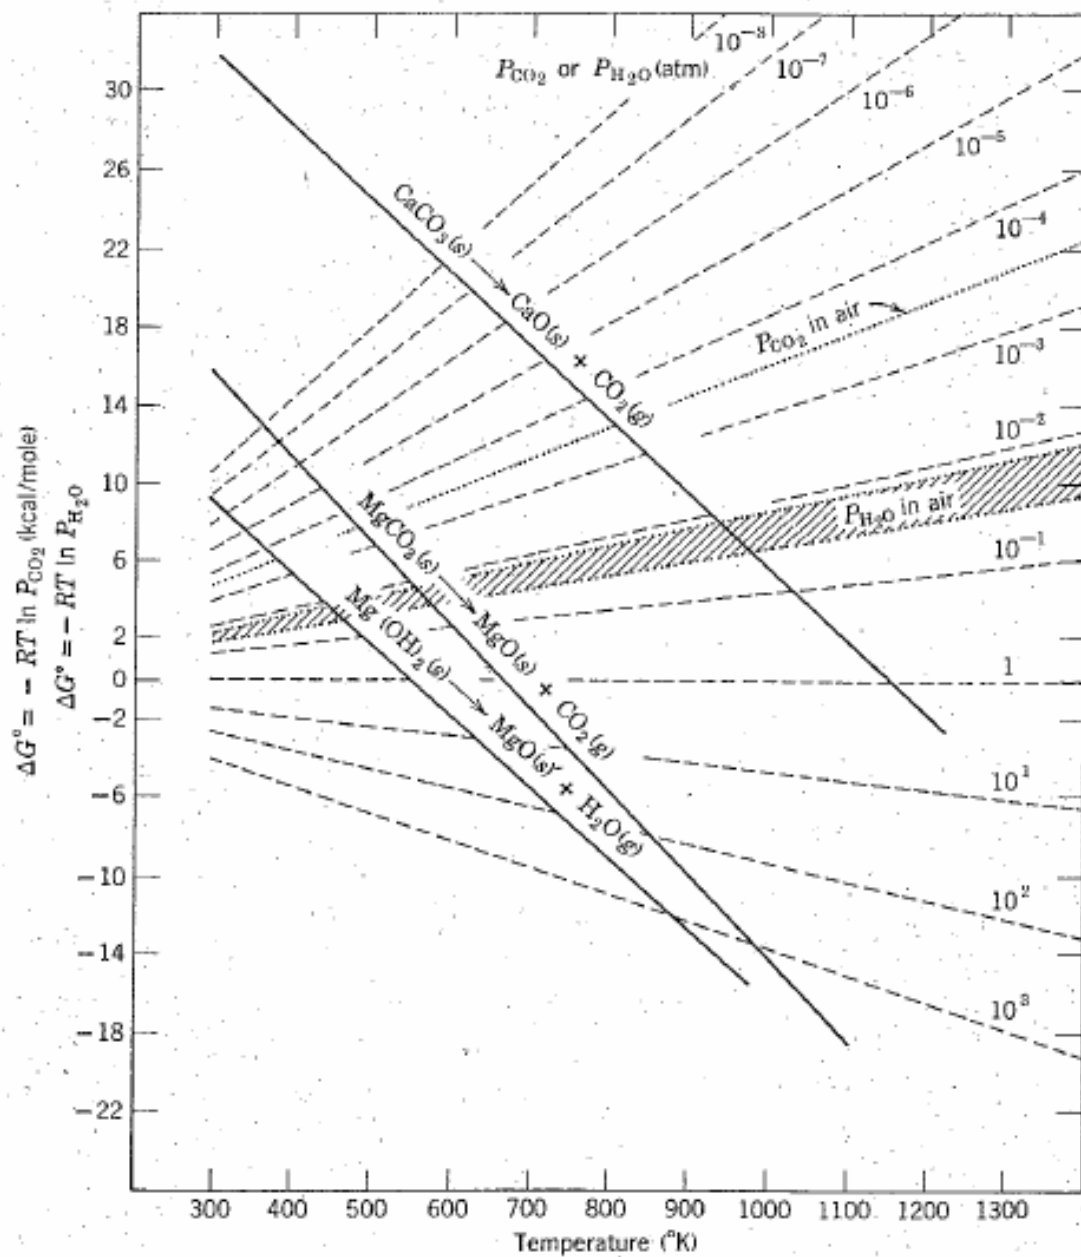

Figure .2: Thermodynamic data for Mg and Ca oxides and carbonates.
- In the days before the industrial revolution the P_{CO_2} in the earth's atmosphere was 275 ppm. Use the data in Figure .2 to calculate how high one would need to heat $CaCO_3$ to decompose it at a P_{CO_2} for the preindustrial concentration of 275 ppm and for present day P_{CO_2} (You will have to look this up, please give your source). Also calculate how high one would need to heat $CaCO_3$ to decompose it if the CO_2 level in the atmosphere reaches 500 ppm.